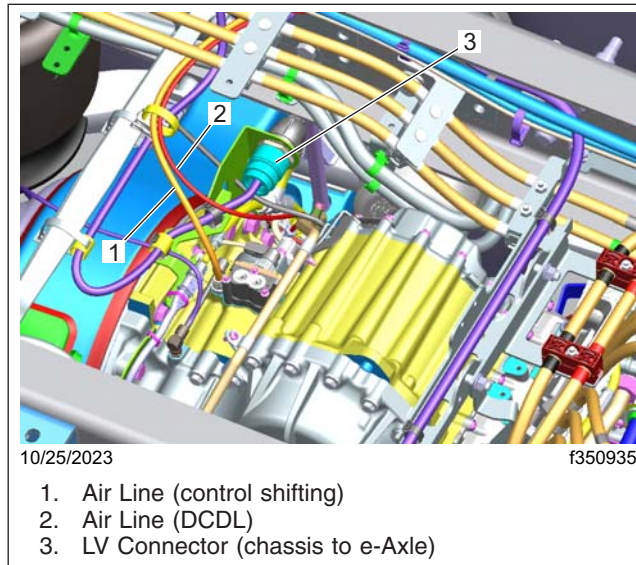

Fig. 2, Location of the LV Connector
8. Disconnect the low voltage (LV) chassis harness from the e-Axle. See **Fig. 2**.
17. Disconnect the air lines from the eCarrier. See Fig. 2.
49. Connect the air lines to the eCarrier. See **Fig. 2**.
50. Connect the LV chassis harness to the e-Axle. See **Fig. 2**.